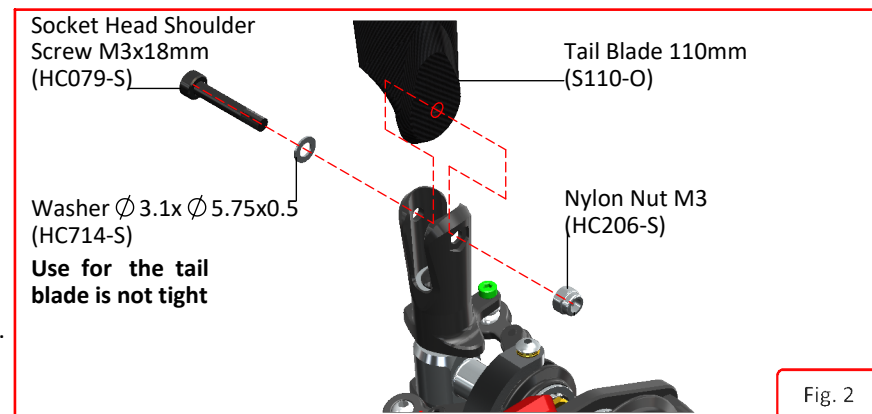

Fig. 2
- *Fit the main blades and tail blades. (**Figure.1** and **Figure.2**)